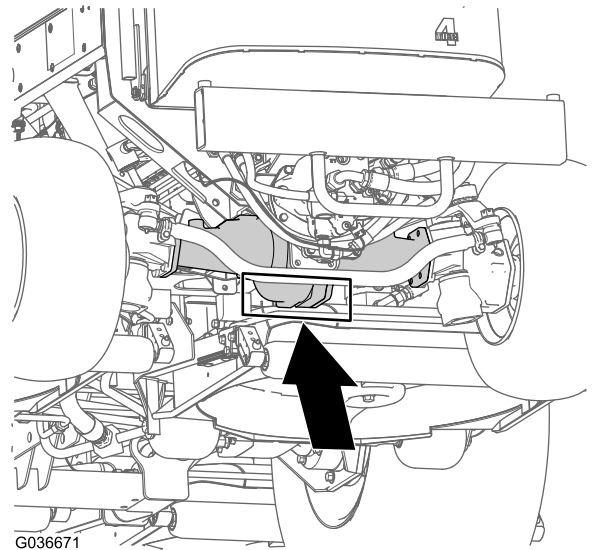

Figure 32
**Rear of the machine**—at the center of the axle (Figure 32)